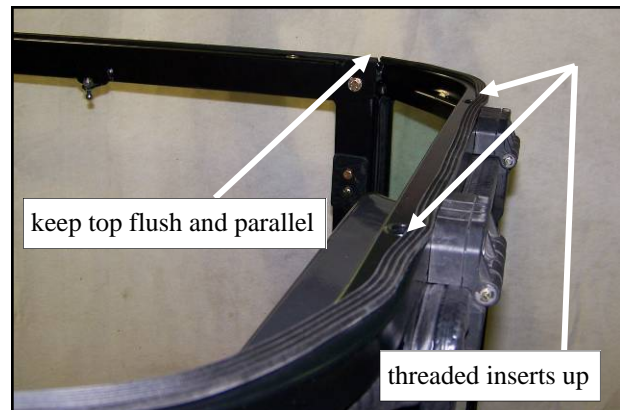

Fig. 12.1 (view from rear of left side)
**12.1** Orient the upper rear panel assembly so the hinges are up top as shown in fig. 12.1. Install the upper rear panel assembly so that the top surface of the tubular frame is flush with the top surface of the side frame tubing. Use the following hardware at the top and bottom of each side: one 5/16-18 x 3/4" long hex head bolt and one steel washer into factory installed threaded inserts in the side frame tubing. See fig. 12.1. Important: make sure the top is flush, parallel, and pushed forward then tighten both bolts.